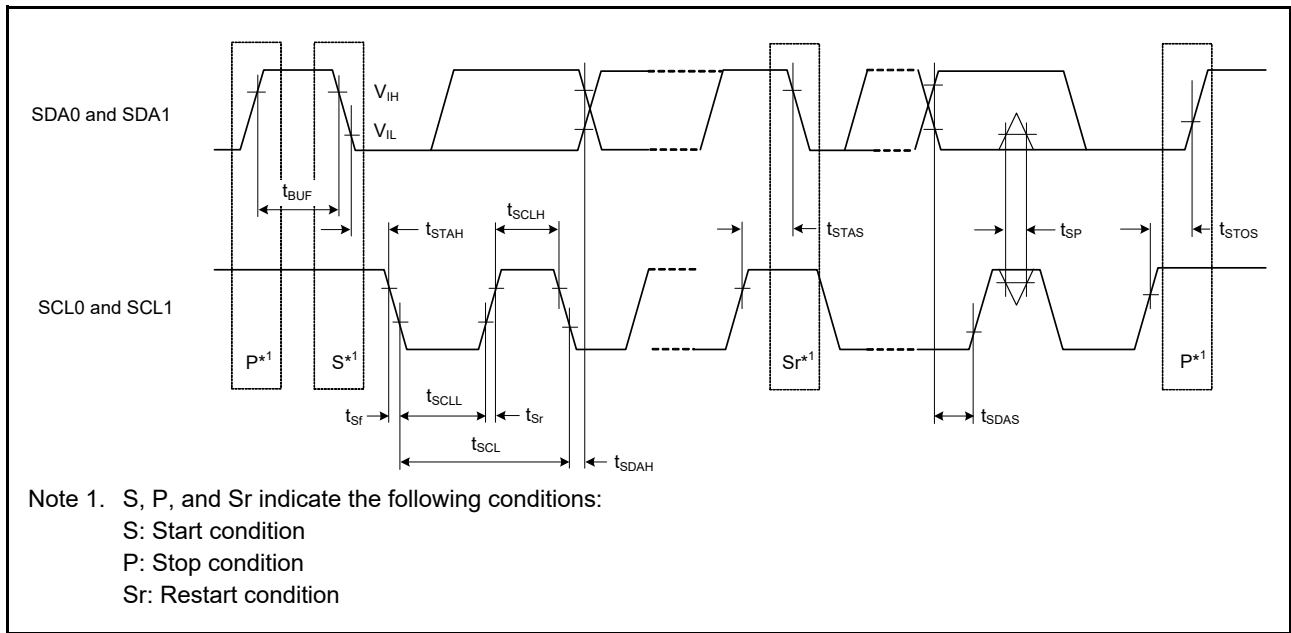

Figure 2.57 I²C bus interface input/output timing
| IIC (Standard mode, SMBus) | SCL input cycle time | t_{SCL} | $6 (12) \times t_{IICcyc} + 1300$ | - | ns | Figure 2.57 |
| IIC (Fast mode) | SCL input cycle time | t_{SCL} | $6 (12) \times t_{IICcyc} + 600$ | - | ns | Figure 2.57 |